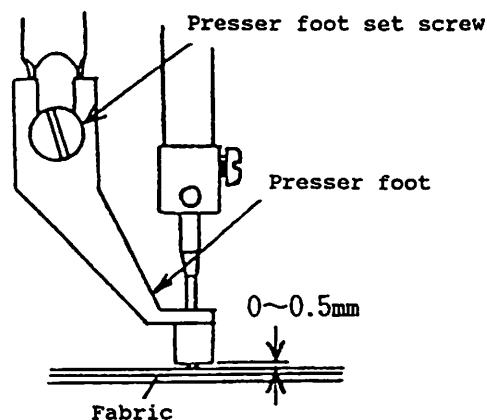
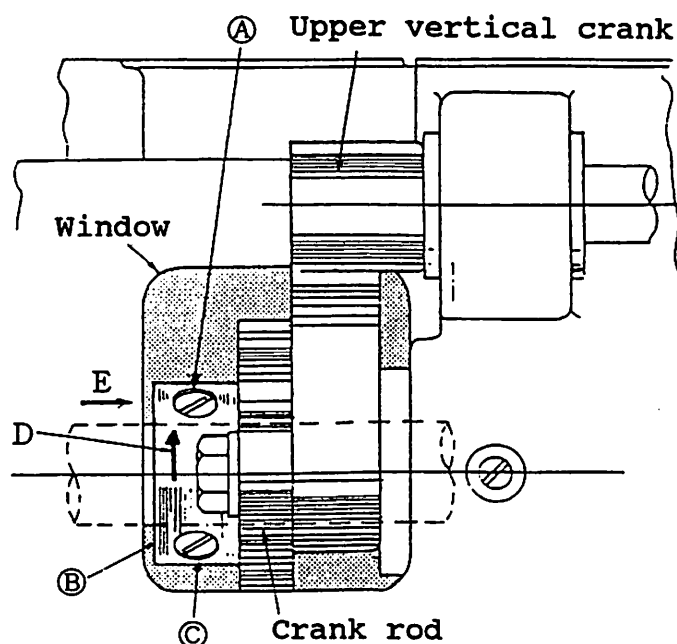
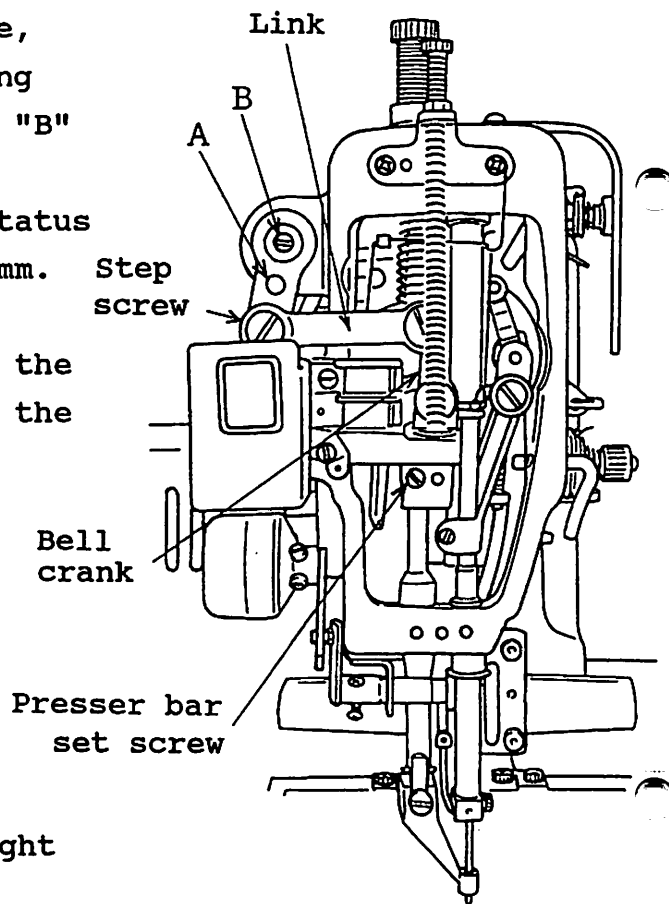

Fig. 7.15
Fig. 9.10
Fig. 9.11
- (1) Check that the needle passes through the center of the presser foot hole.
- (2) Rotate the balance wheel manually and loosen the presser foot set screw (Fig. 7.15) or presser bar set screw (Fig. 9.11) and adjust the height of the presser foot so that the lower end of the presser foot is between 0 and 0.5 mm above the fabric when the presser bar is at its lowest position.
- (1) The stroke of the presser foot can be adjusted to zero and within a range from 2 to 10 mm. When connecting the link and arm using the step screw shown in Fig. 9.11, the stroke range is 4 to 10 mm; when connecting at screw hole "A," it is 2 to 5 mm; and when connecting at screw hole "B," it is zero.
The stroke is factory-set to 4 mm at the position shown in Fig. 9.11. To adjust the stroke in each range, loosen the top and bottom adjusting bolts. If connecting hole "A" or "B" is used, the lift distance of the inside presser foot in the halt status will increase by between 1 and 2 mm. Since the height of the inside presser foot also changes, loosen the presser bar set screw to readjust the height of the presser bar.
Then secure the upper vertical crank in Fig. 9.10 so that the lengthwise center of the bell crank (see Fig. 9.11) is made parallel to the presser bar. (For this adjustment, the eccentric ring must be adjusted properly.)